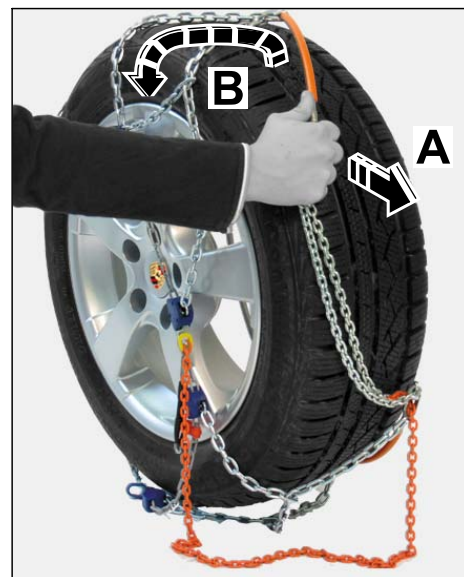

Figure 19
3.2.1 If the end of the spring steel clip is visible: Pull the ends of the spring steel clip apart as far as possible (⇒ *Figure 19-A-*) and pull the snow chain off the wheel from above (⇒ *Figure 19-B-*).